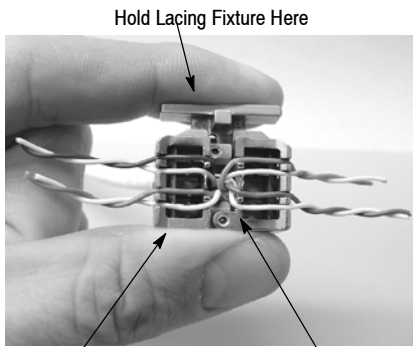

Figure 7
12. Close the lacing fixture around the cable. Lacing fixture 1673956-1 contains a ball detent to keep the fixture closed. This fixture should be held by the cable clamp and by the bottom to keep the the cable from moving during wire lacing. Refer to Figure 7.
fixture to the outside wire position slot. See Figure 7.